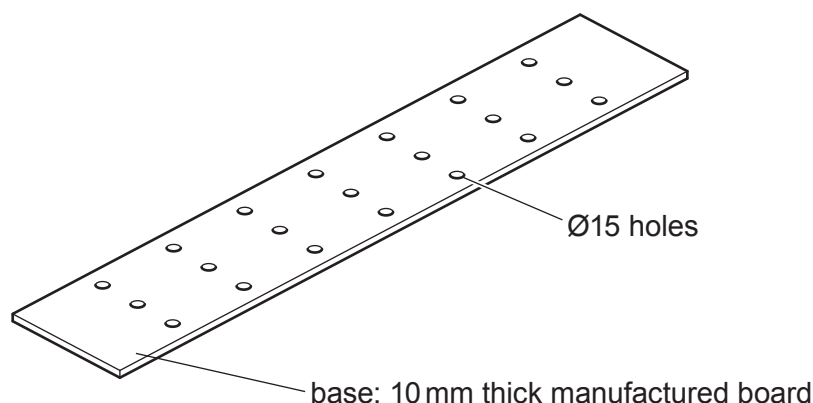

Fig. 13.2
- (c) Fig. 13.2 shows the base of the plant holder with Ø15 holes drilled to allow for drainage.